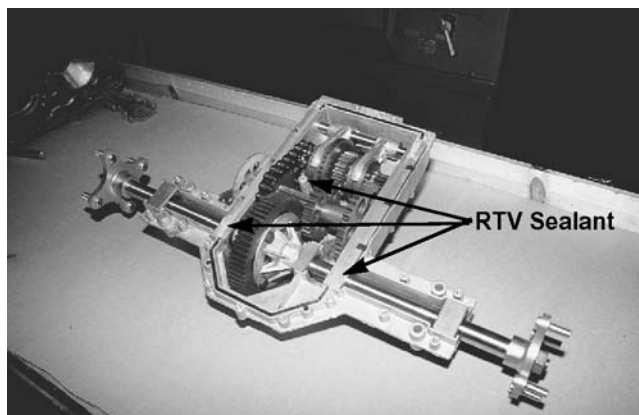

Figure 5-94.
56. Place a small amount of RTV sealant at the corners of the main bearing block where the gaskets will overlap. Also place a small amount around the center bolt hole. See Figure 5-94.